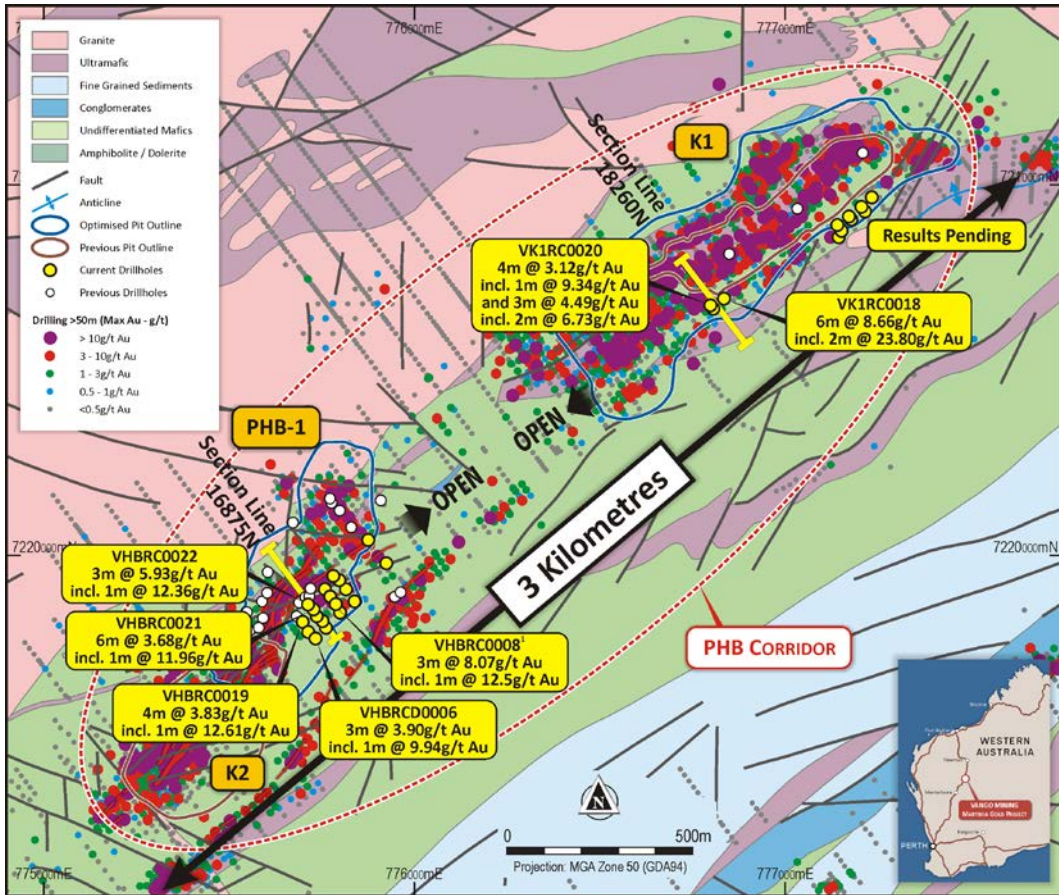
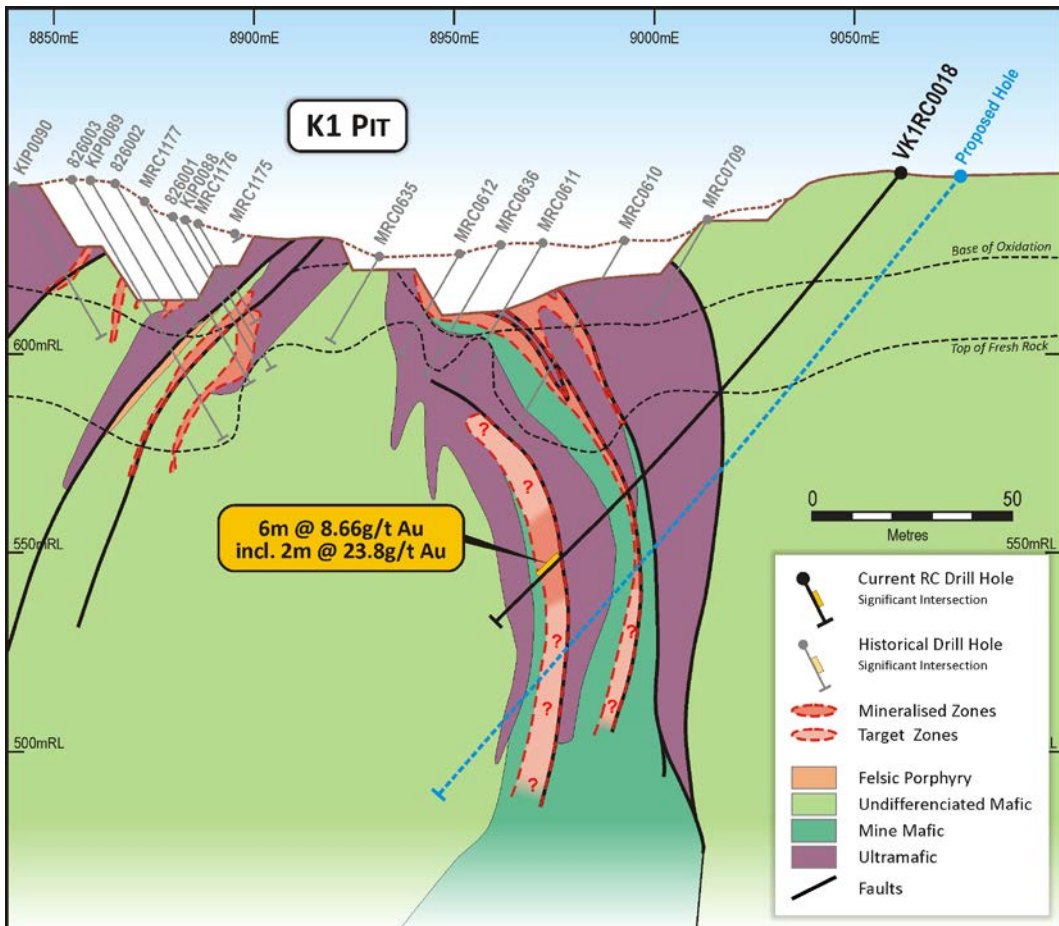

Figure 1: Marymia Gold Project, PHB Corridor with new intersections
Figure 2: K1 Prospect, cross section 18,260mN showing high-grade intersection on new lode
- Results of broad spaced extension drilling indicate potential to link high-grade gold mineralisation from PHB-1 to the K1 prospect over a 3km strike length (Figure 1)
Vango Mining Limited (Vango, ASX:VAN) is pleased to announce significant, high-grade, intersections from drilling at the PHB Corridor on its 100% owned Marymia Gold Project, located 300km northeast of Meekatharra in the Mid-West region of Western Australia (Figures 1, 4 and 5 for location).
The new high-grade results, from the first 3 of 11 reverse circulation (RC) holes (Figure 1), represent a potential new lode discovery at K1 (Figure 2). This new lode occurs in the footwall of the Main Lode target below the K1 open-pit (Figure 2). The Main Lode and this new structure are interpreted to pass from ultramafic units into the highly prospective Plutonic 'Mine Mafic' unit immediately below these intersections (Figure 2).